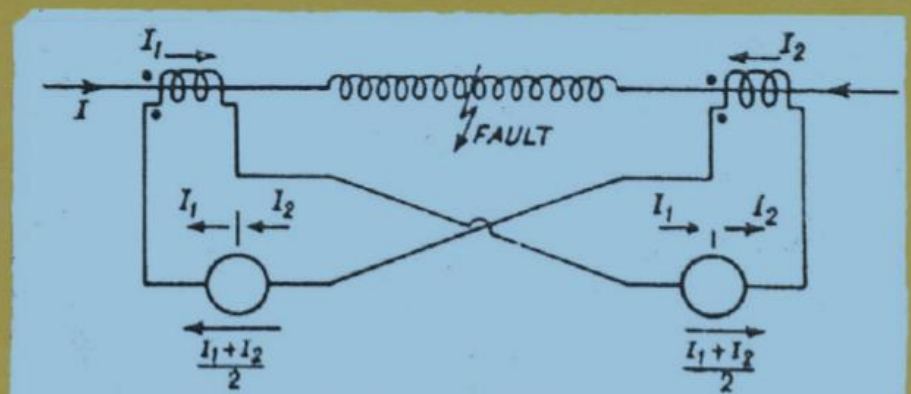

Fig. 3-19 . Internal fault condition.
- * During internal fault, the condition changes as shown in Fig 3-19.